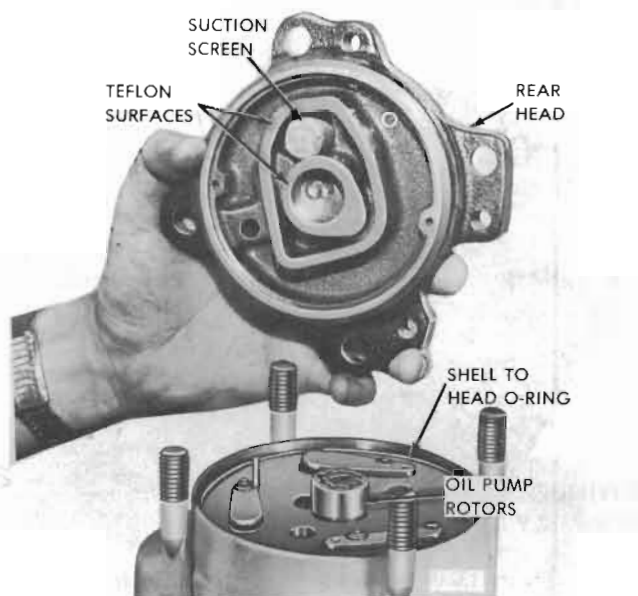

Figure 13-35 Rear Head Removal
**NOTE:** If Teflon sealing surface is damaged (see Figure 13-35), replace rear head. Clean or replace suction screen as necessary.